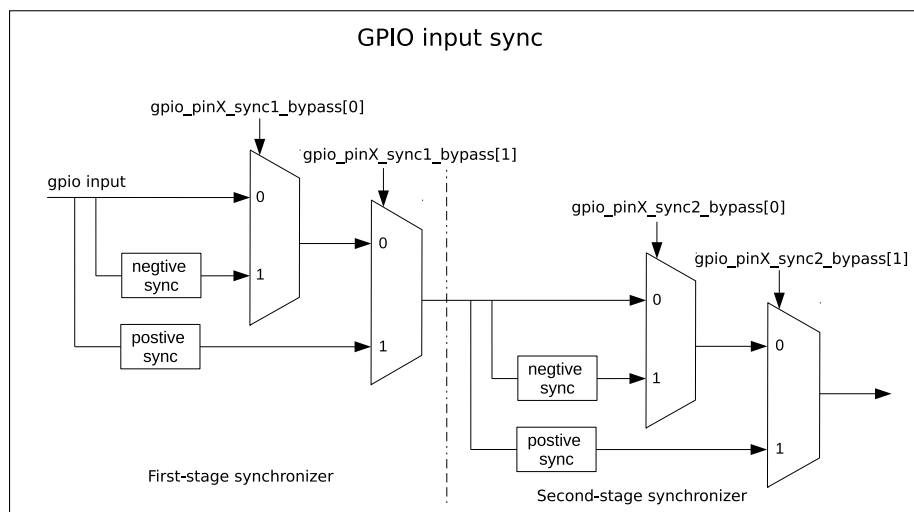

Figure 19-2. GPIO Input Synchronized on Clock Rising Edge or on Falling Edge
Figure 19-2 shows the functionality of GPIO SYNC. In the figure, negative sync and positive sync mean GPIO input is synchronized on APB clock falling edge and on APB clock rising edge, respectively.
- Set `GPIO_PIN x _SYNC1_BYPASS` to enable input signal synchronized on rising edge or on falling edge in the first clock, see Figure 19-2.
- Set `GPIO_PIN x _SYNC2_BYPASS` to enable input signal synchronized on rising edge or on falling edge in the second clock, see Figure 19-2.